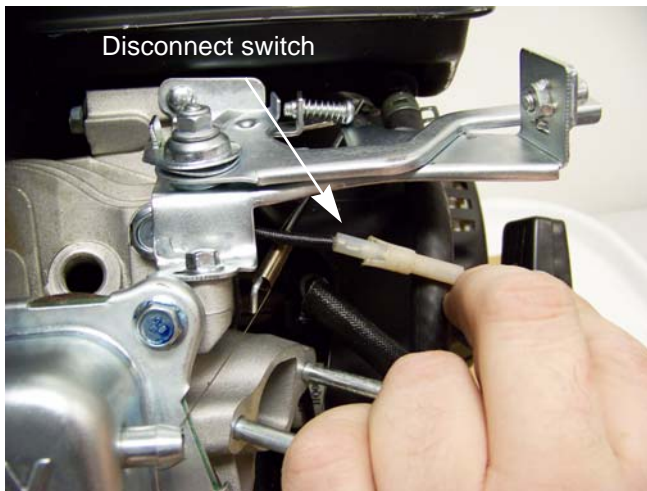

Figure 9.1
5. Disconnect the throttle stop switch. See Figure 9.1.